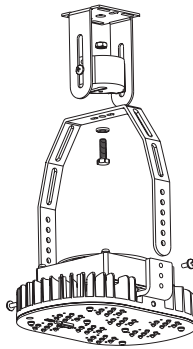

Figure 5
7. If the lamps are installed vertically, take highbay fixtures for example, see Figure 5.